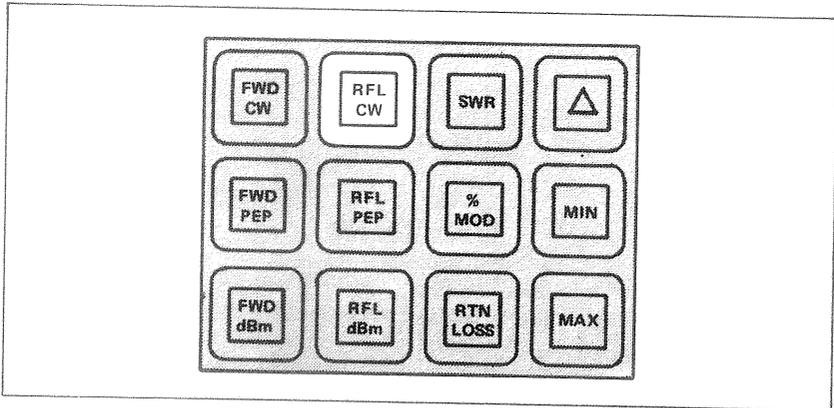

Figure 3-2. Reflected Power (CW).
b. Reading Reflected CW Power. (Figure 3-2.) Operation of the reflected CW power mode is identical to that for forward CW power described above with two exceptions: the readings are taken from the element in the socket marked “reflected” and the range of the element is assumed to be 1/10 the range indicated by the range switches.